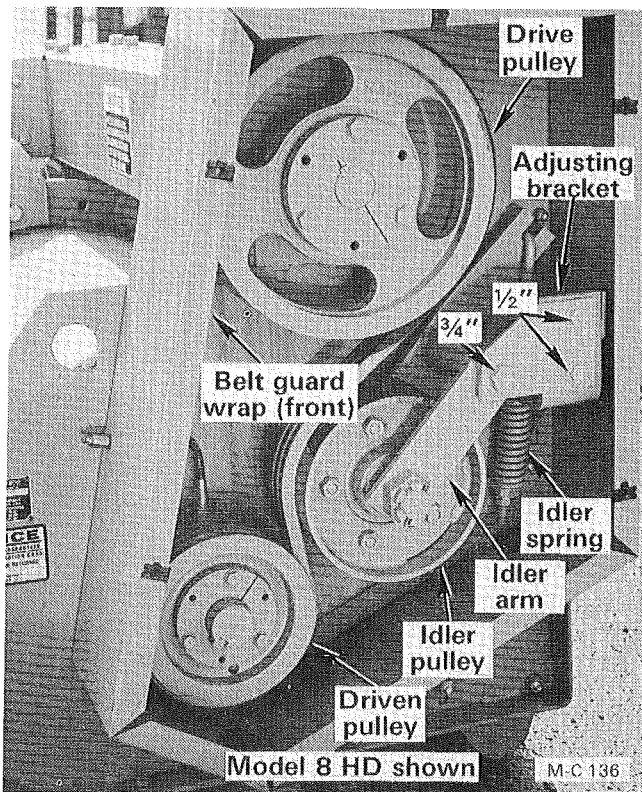

Figure 46
2. Remove the two 1/2 inch and one 3/4 inch cap screw in the adjusting bracket and remove the idler arm and pulley assembly see Figure 46.
7. Put the idler pivot bushing in the idler arm and install the idler pulley assembly and adjusting bracket, see Figure 46. Do not tighten the two  $\frac{1}{2}$ " and  $\frac{3}{4}$ " capscrews until after the idler pulley alignment has been checked.